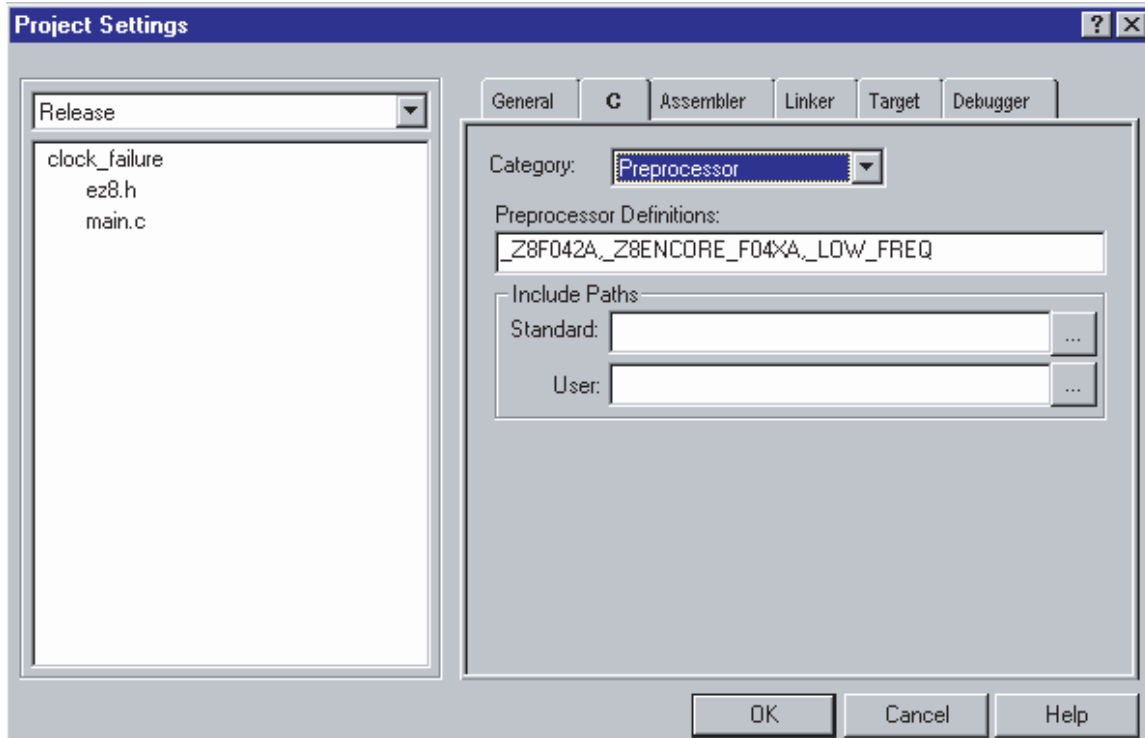

Figure 1. Preprocessor Definitions in Project Settings Dialog Box
5. Add the `_LOW_FREQ` definition to the **Preprocessor Definitions** field. This definition is required to select 5.5 MHz as the frequency of the internal precision oscillator. Figure 1 displays the **Preprocessor Definitions** field in the **Project Settings** dialog box.